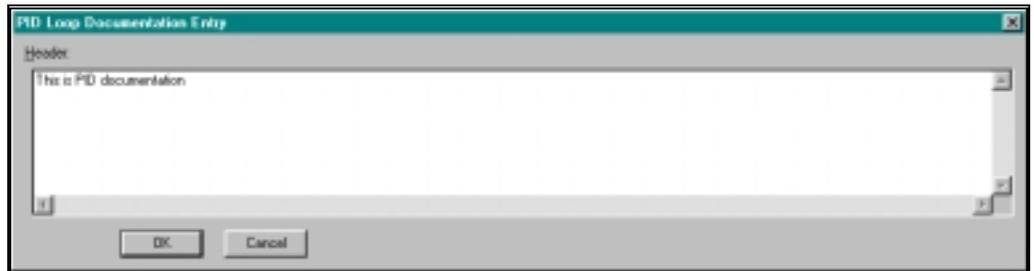

Figure 9.11
2. Select the PID Loop number that you want to document by using the left mouse button or the Arrow keys on the keyboard. Click on the dialog box Document button or use the keyboard to Tab to the document button and press Enter or (Alt+O). The following dialog box appears (Figure 9.11).